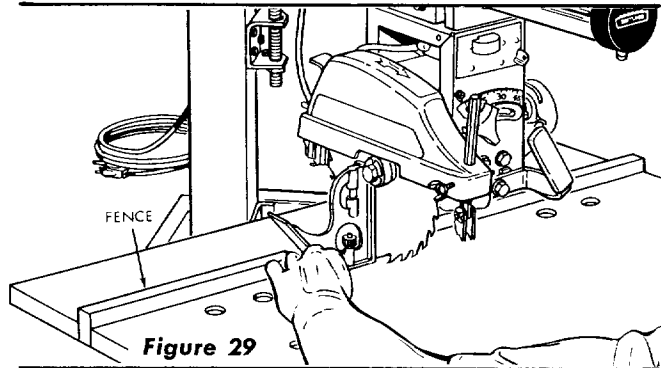

Figure 29
- c. Place a combination square (or try square) on the front table and against the saw blade, as shown in figure 29.
- (2) Hold the square as shown in figure 29, and shift the motor enough to square the saw blade with table top.
- (4) Recheck as shown in figure 29 and make corrections if any shifting occurred while screws were being tightened. Several trials may be required.